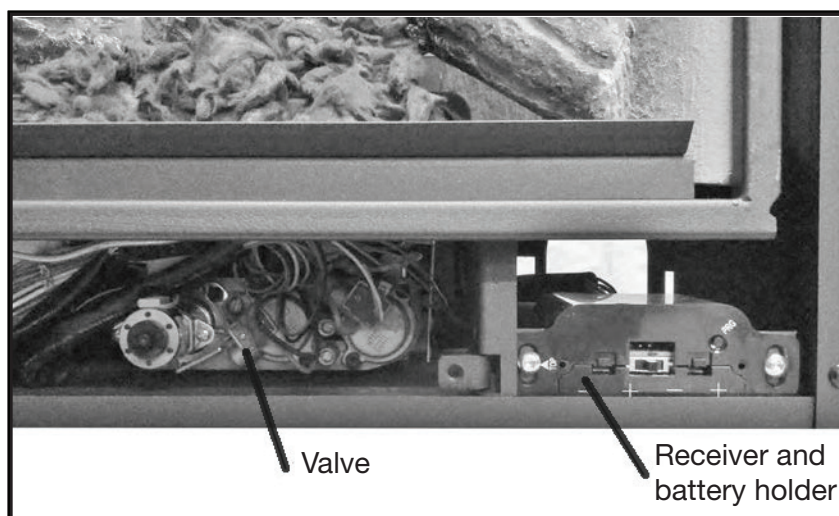

Figure 32: Gas control valve location.
1. Remove bottom trim and locate the valve as seen in (Figure 32).